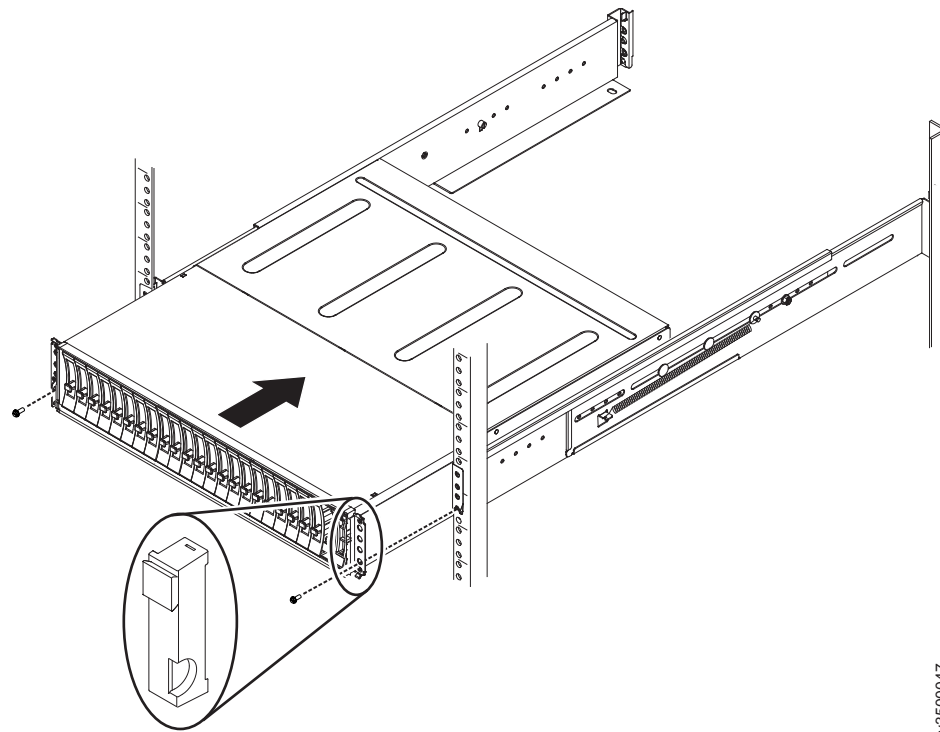

Figure 49. Inserting the enclosure
2. Carefully slide the enclosure into the rack along the rails until the enclosure is fully inserted (see Figure 49).
5. Reinstall the left and right end caps as shown in Figure 49. The left end cap has indicator windows that align with the status LEDs (light-emitting diodes) on the edge of the enclosure.